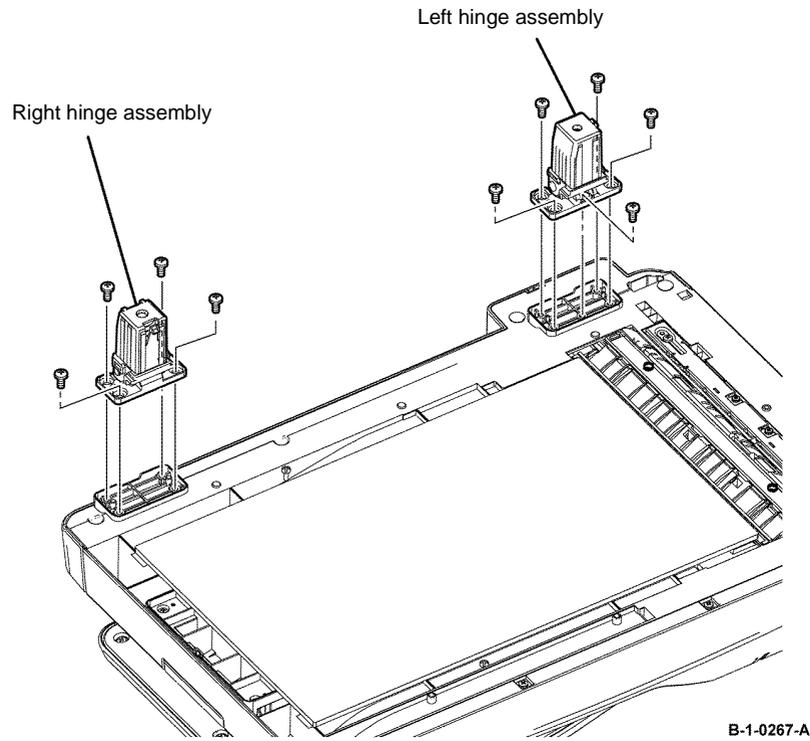

Figure 1 Hinge assembly removal
12. As necessary, remove five screws (silver, tapping, 8mm), then remove the relevant hinge assembly, Figure 1.